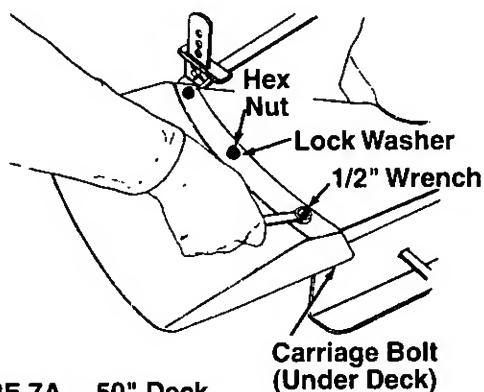

FIGURE 7A.—50" Deck
- Remove the bolts, nuts and cupped washers which are attached to the deck next to the chute opening. Place the chute deflector in position as shown in figure 7A or 7B. Secure with hardware just removed.